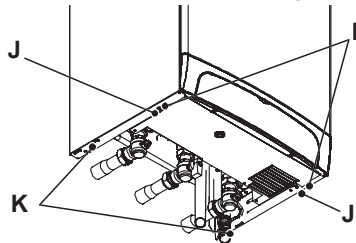

Fig. 6.14
- Remove the screws I and J (Fig. 6.14).